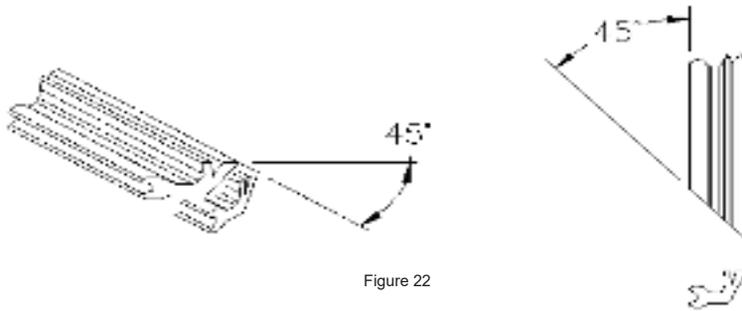

Figure 22
**c.** Trim the end of the floor seal at a 45° angle at both ends (Figure 22). The angle on the seal pushes the adhesive into the seal groove. Pull the floor seal into the floor slat. The open end of the “Y” must be towards the top of the slat (Figure 23). Pull the polyurethane (black) seal short of the full length by the dimension “X”. The dimension “X” varies with the floor slat length. Refer to Figure 24 to determine the correct “X” length. Cut the floor seal off flush with the end of the floor slat (Figure 25). If using the polyethylene seal (blue) pull it flush with the end of the floor slat (Figure 26).